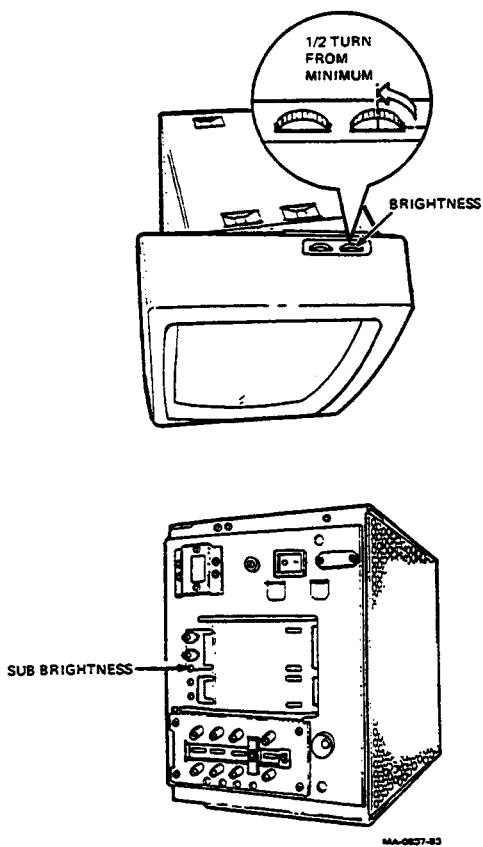

Figure 4-19 White Raster Adjustment (Part 2)
4. Slowly turn the brightness control from maximum to minimum (Figure 4-19). Make sure the raster goes from white to gray. Adjust the SUB-G. DRIVE and SUB-B. DRIVE controls as necessary to obtain a white and gray raster at all brightness levels.
7. Turn the SUB-BRIGHTNESS control (Figure 4-19) clockwise until raster appears.